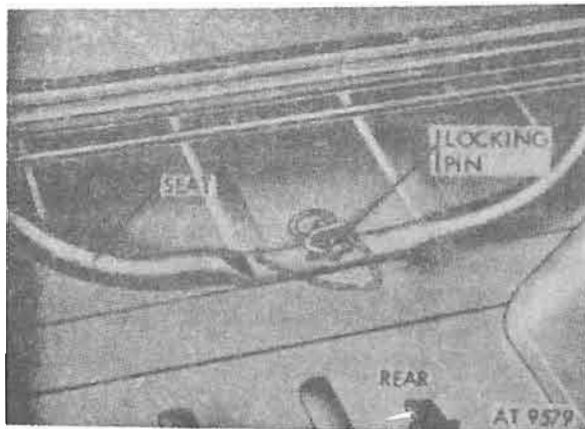

Figure 4-10. Front seat locking pin.
(2) Pull out the locking pin (fig. 4-10) from the bottom rear of each front seat and remove seats.
(2) Pull locking pin (fig. 4-10) from floor mounting position at rear of front seat, and lift front seat assembly away from vehicle. Remove other front seat in same manner.